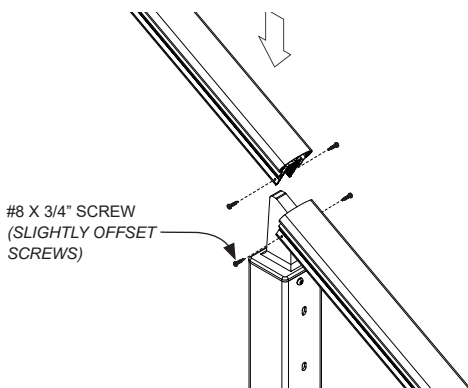

Figure 5.10
* If splicing at Stair Post Adapter, cut end square. (See Figure 5.10 on pg. 11)
Slide the Top Rail down and over the Stair Post Adapter. Attach both ends using #8 x 3/4" screws. (See Figure 5.10)